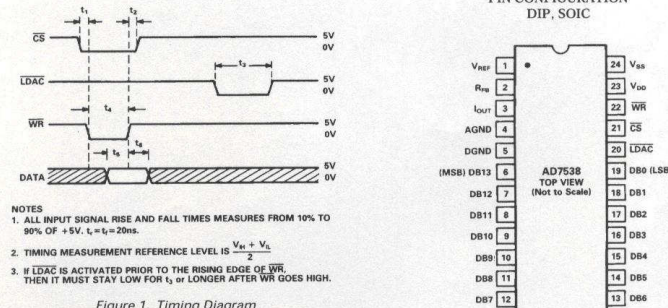

Figure 1. Timing Diagram
**TIMING CHARACTERISTICS1** ( $V_{DD} = +11.4\text{ V to }+15.75\text{ V}$ ,  $V_{REF} = +10\text{ V}$ ,  $V_{P1M3} = V_{P1M4} = 0\text{ V}$ ,  $V_{SS} = 0\text{ V or }-300\text{ mV}$ . All specifications  $T_{MIN}$  to  $T_{MAX}$  unless otherwise noted. See Figure 1 for Timing Diagram.)